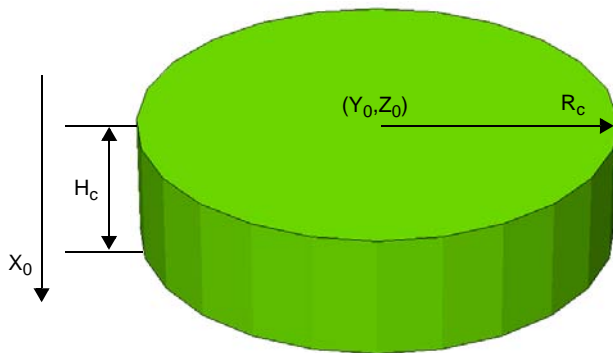

Figure 129 Cylinder-shaped polyhedron
- Other parameters give the center coordination, the radius, and the height for the cylinder (see Figure 129).